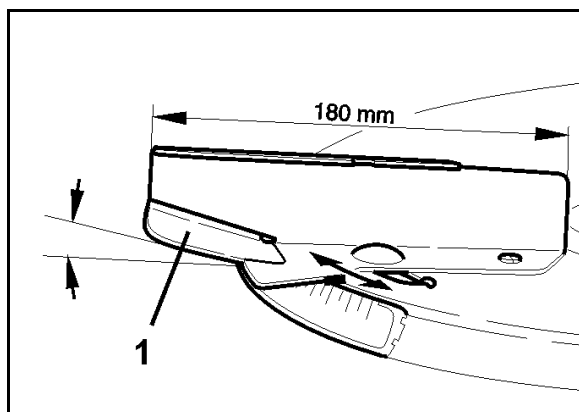

Fig. 58
The shorter spreading vanes are equipped with swivel blades that can be pivoted up without using tools (Fig. 58/1) and allow late topdressing of grain up to a crop height of 1 m **without** additional accessories.
3. Swivel the swivel blades (Fig. 58/1) of the spreading vanes to the required position for normal fertilising or late top dressing.